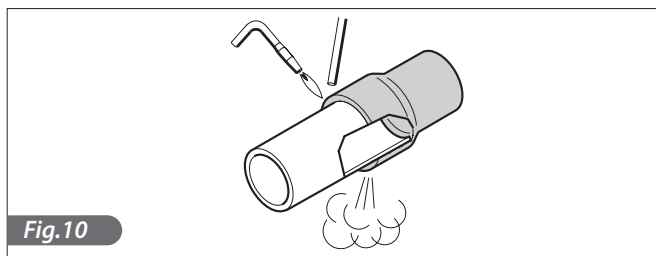

Fig.10
- 3) Hermetic welding (Fig.10).